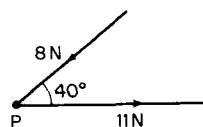
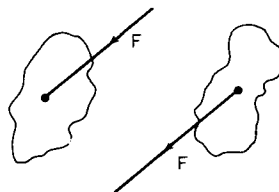
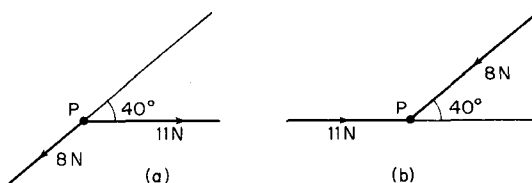
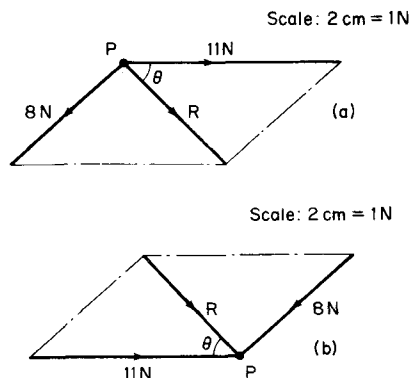

Fig. 2.18
Fig. 2.19 The effect on the body is the same whether F pushes on it or whether it pulls on it
Fig. 2.20
Fig. 2.21
**Example.** Find the resultant of the two forces shown in Fig. 2.18.
We see from Fig. 2.18 that the 8 N force pushes towards P whilst the 11 N force pulls away from P. Before we can draw the parallelogram of forces *both* arrow-heads must either point towards P or they must *both* point away from P. Consider the force F shown in Fig. 2.19. It does not matter if F pushes on the body or if it pulls on the body—the effect on the body will be the same in either case.
Hence we may alter Fig. 2.18 in the ways shown in Fig. 2.20 without altering the effect the forces have on the point P. We can use either diagram to construct the parallelogram as shown in Fig. 2.21. Both constructions produce the same answer,  $R = 7.25$  N and  $\theta = 48^\circ$ . Notice that in Fig. 2.21 all the arrow-heads either point towards P or point away from P.